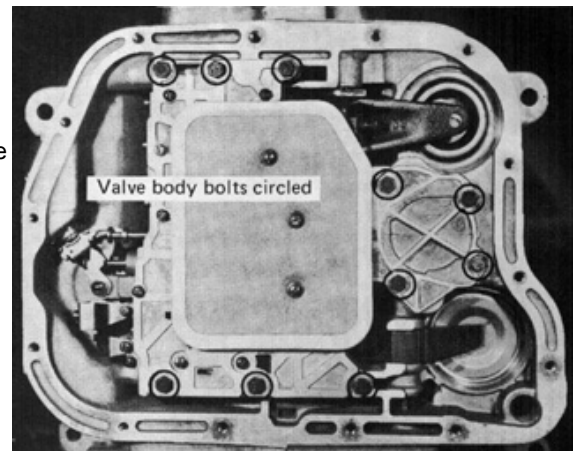
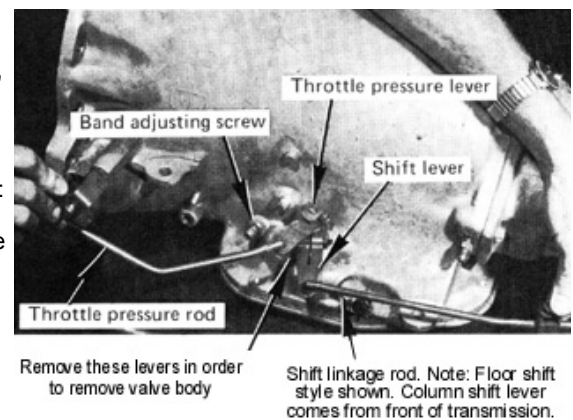

FIGURE 1
FIGURE 2
STEP 2. The valve body will now be exposed. (See Fig. 1.) It is held in place by ten, 1/4-20 bolts. Before the valve body can be removed, you must disconnect shift and throttle linkage. (See Fig. 2.) Throttle linkage is located on the left (driver) side of the case, just above the valve body. The lever is attached to the throttle shaft and held in place with a pinch bolt. Use a 7/16" wrench or socket and loosen the bolt but do not remove it. Use a screwdriver to pry the lever up and off the shaft. You may have either of two styles of shift linkage: